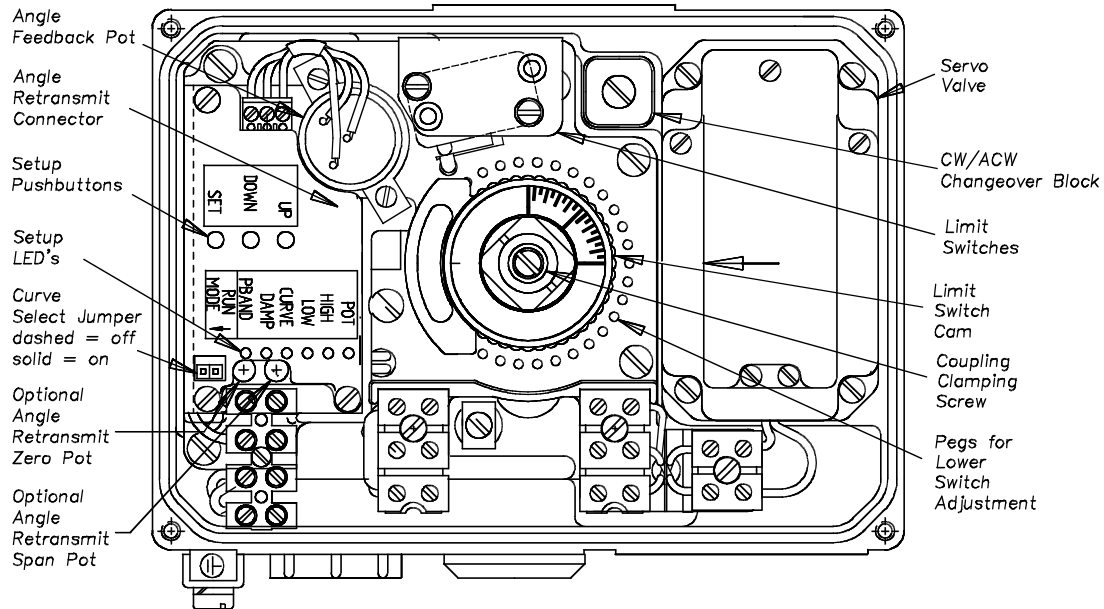

FIGURE 6a. DIGITAL EL CONTROL ADJUSTMENTS. OPEN BOX, TOP VIEW – MOULDED COUPLING.
5.2.1 Moulded coupling cams, shown in figure 6a, can be adjusted using light pressure to rotate in 1 degree increments. Adjust the lower cam first using a screwdriver to lever against special pegs moulded into the carrier plate or use finger pressure. Secondly move the upper cam using finger pressure only. Graduated marks on the top of the coupling are provided to gauge the position of the actuator with the lid removed. This can be lined up with an arrow marked on the servo valve lid.